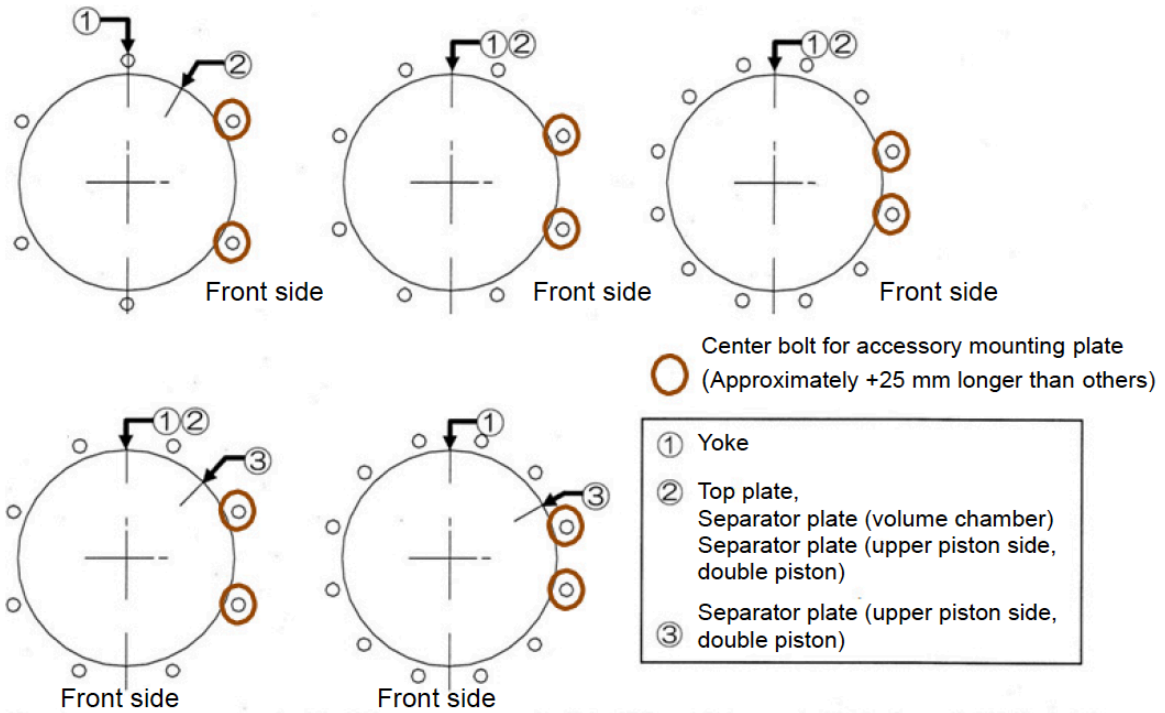

Figure 13 - Center bolt Positioning
7. Replace cylinder tube (14), and top plate (17) with only axial movement. Coat the inner surface of the cylinder tube with silicone grease.
- Ensure the positions of the air connections are correct. Insert the center bolts into the holes of the top plate and yoke. Mount the spring washers and nuts and tighten them lightly by hand. Mount the spring washers and nuts to the bottom side of the yoke by hand. Ensure that the position of center bolts (Approximately +25 mm longer than others) for the accessory mounting plate, if equipped, complies with Figure 13.